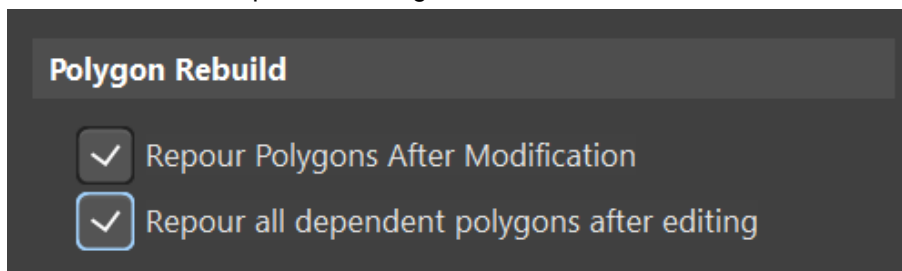

Figure 9. Enable Polygon Rebuild optionsPolygon Pour Manager
31. Enable both **Repour Polygon** options under the *Polygon Rebuild* section as shown in Figure 9.